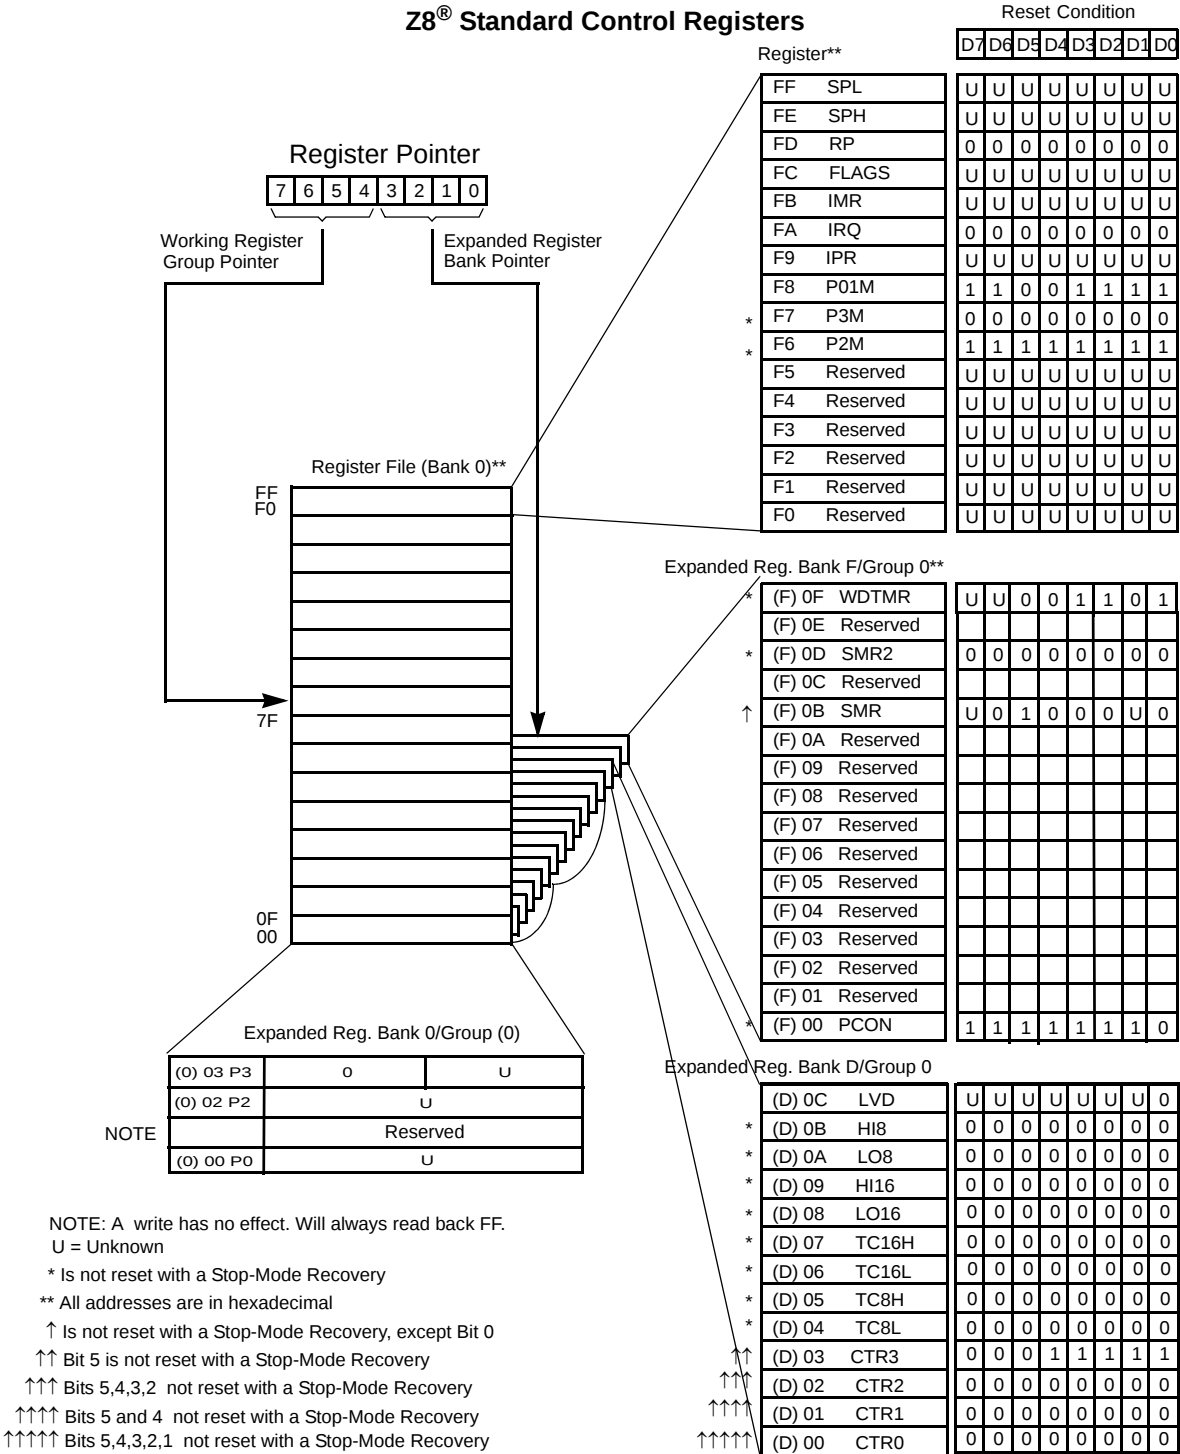

Figure 12. Expanded Register File Architecture
- **Note:** An expanded register bank is also referred to as an expanded register group (see Figure 12).
Example: (See Figure 12 on page 22)